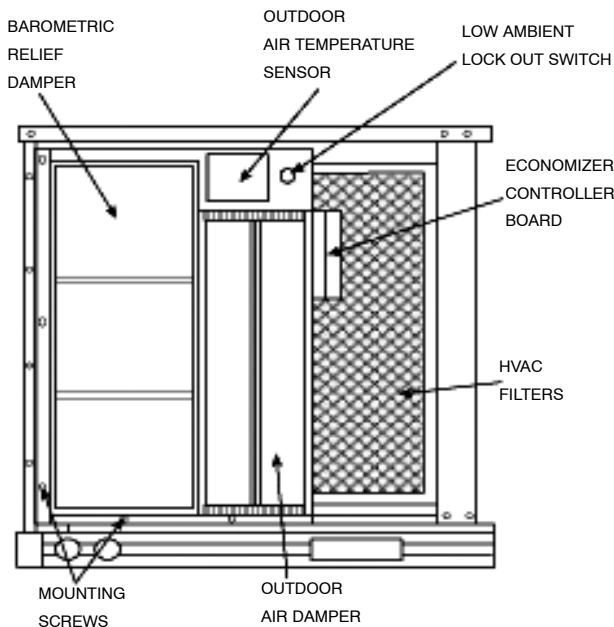

Fig. 6- Economizer installed in unit
9. Secure the Economizer mounting flanges to the HVAC unit with the screws provided. See Fig. 6.